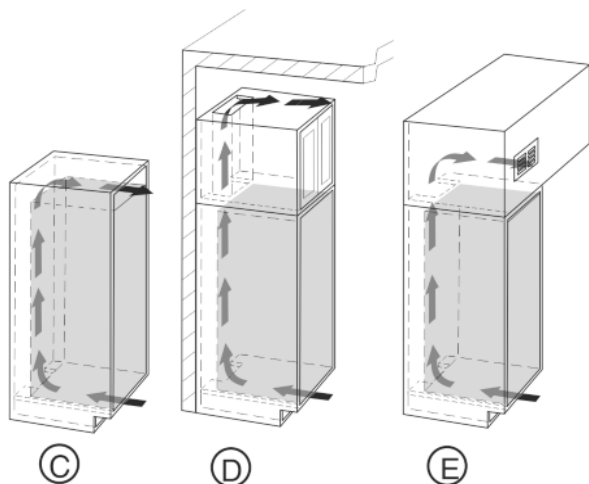

Fig. 4
- The upper ventilation shaft can either be positioned directly above the appliance with an optional ventilation grille Fig. 4 (C), close to the ceiling above the unit Fig. 4 (D) or as an air outlet opening in a false ceiling Fig. 4 (E).